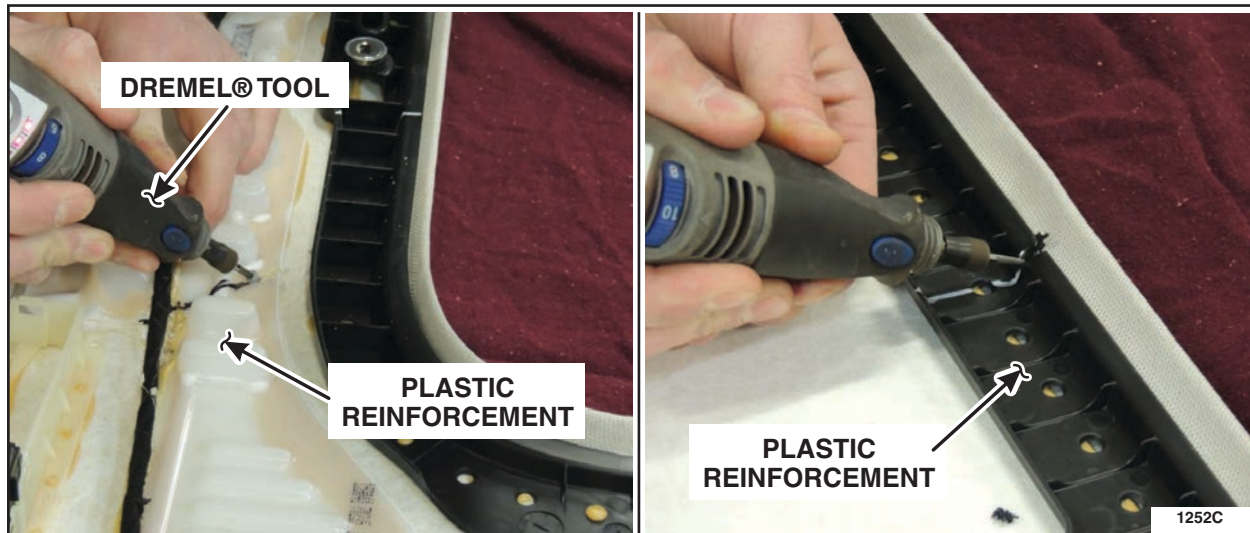

FIGURE 24
2. Using a DREMEL® tool with bit (part # 9903), cut the plastic reinforcements following the previously marked locations. See Figure 24.